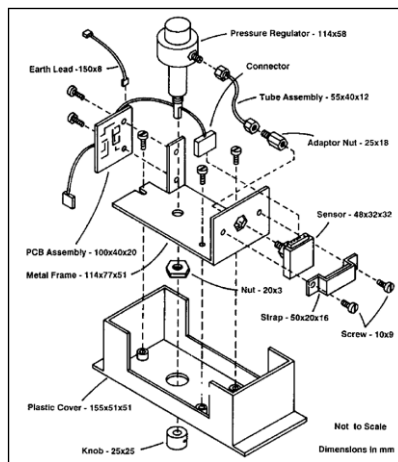

Figure 8
3. Prepare an assembly sequence for the following exploded view of assembly as given in figure 8.